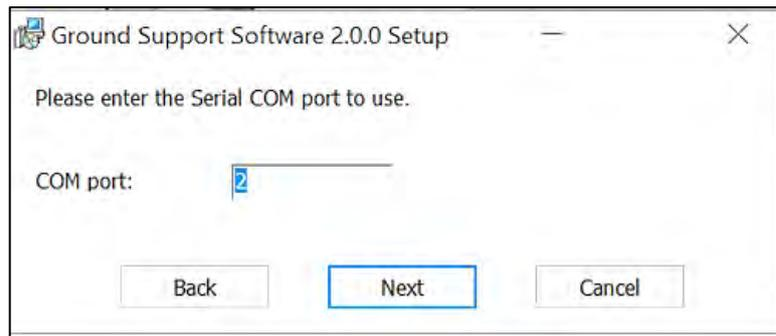

Figure 3-4 Com Port Allocation
- (b) The Com Port Allocation Screen will be shown. Enter the required port number 1-3 and press next. (Ref Fig 3-4).